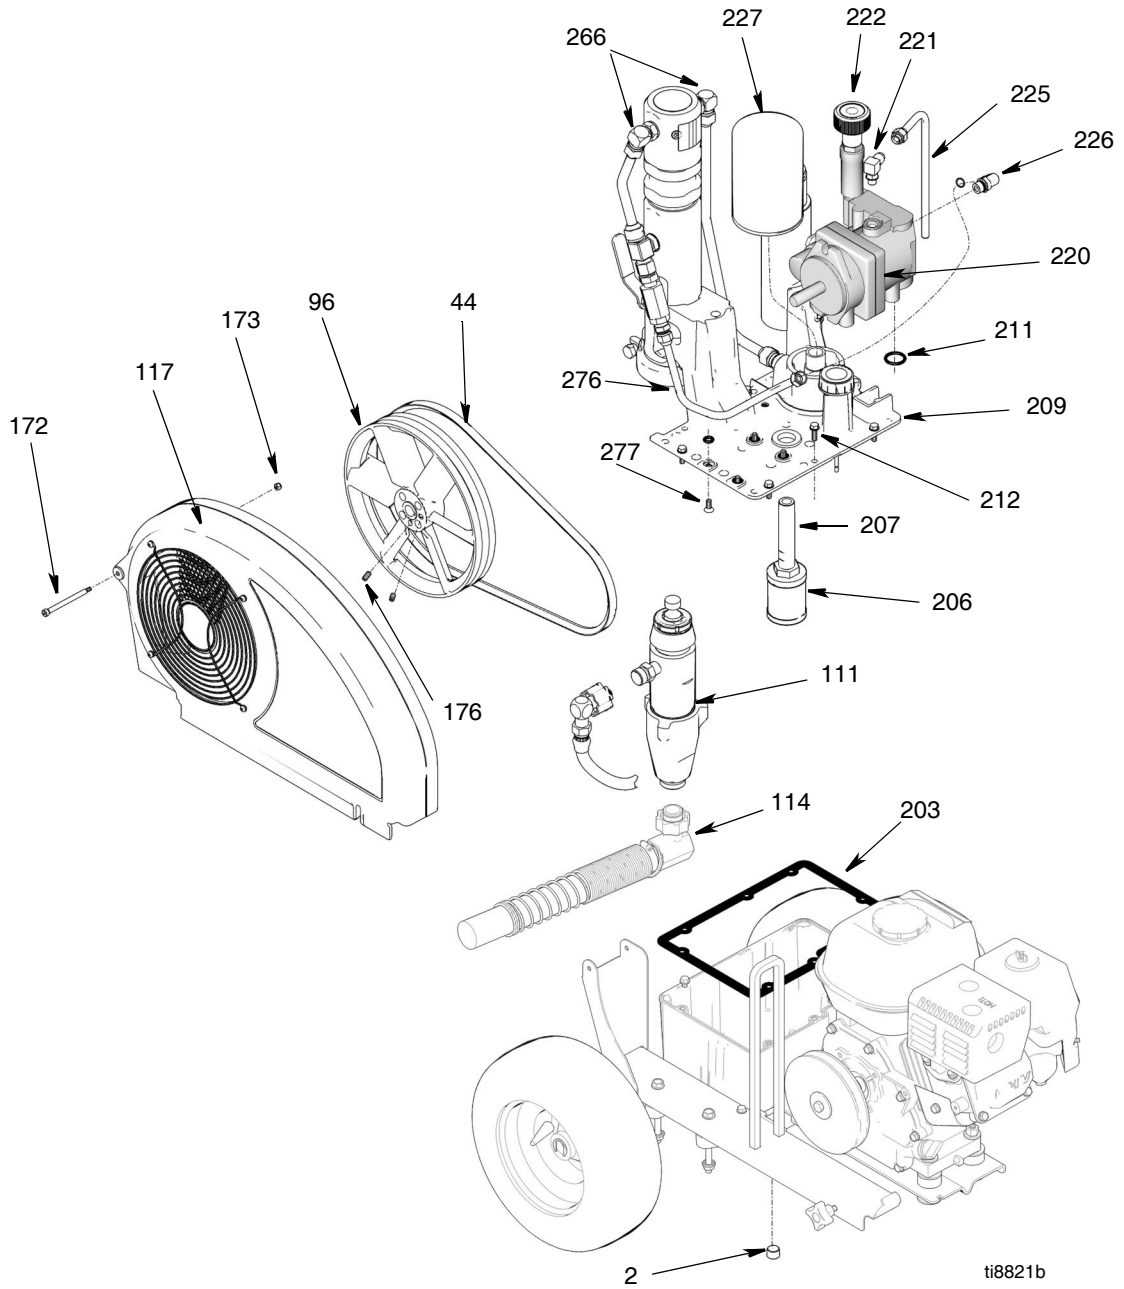

FIG. 2
(Figure 2)
- 3 Remove drain plug (2) and oil filter (227) and allow hydraulic oil to drain.
- 4 Fig. 2. Disconnect suction tube (114).
- 5 Disconnect pump (111), page 15.
- 6 Remove screw (172), nut (173) and belt guard (117).
- 7 Raise motor and remove belt (44).
- 8 Remove two set screws (176) and fan pulley (96).
- 9 Remove case drain tube (225).
- 10 Remove elbow (221).
- 11 Remove tube (276) from elbow (226). Remove elbow (226) from hydraulic pump (220).
- 12 Remove eight screws (212) reservoir cover (209) filter assembly (206) and gasket (203).
- 13 Remove four screws (277) and hydraulic pump (220) from reservoir cover (209).
- 1 Install hydraulic pump (220) to reservoir cover (209) with four screws (277); torque 90-110 in-lb (10.1-12.4 N·m).
- 2 Install gasket (203) and reservoir cover (209) with eight screws (212); torque 110+/-5 in-lb (12.4 +/- 0.5 N·m).
- 3 Install elbow (226) in hydraulic pump (220). Install elbow (226) in tube (276). Torque to 25 ft-lb (33.9 N·m).
- 4 Install elbow (221); torque to 15 ft-lb (20.3 N·m).
- 5 Install case drain tube (225); torque to 15 ft-lb (20.3 N·m).
- 6 Install fan pulley (96) with two set screws (176).
- 7 Raise motor and install belt (44).
- 8 Install belt guard (117) with screw (172) and nut (173).
- 9 Connect pump (111), page 15.
- 10 Fig. 2. Connect suction tube (114).
- 11 Install drain plug (2); torque to 110 in-lb (12.4 N·m). Install oil filter (227); tighten 3/4 turn after gasket contacts base. Fill hydraulic pump with Graco hydraulic oil, page 6, through elbow (221) port until full. Fill reservoir with remaining hydraulic oil.